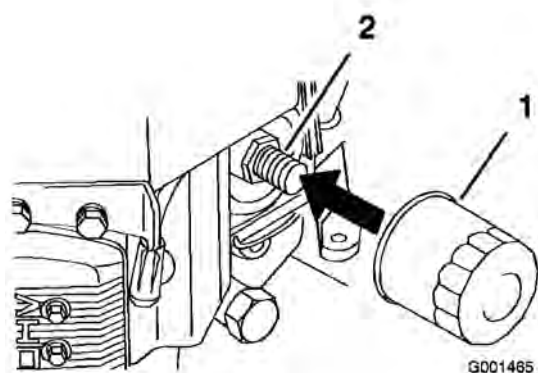

Figure 30
- Remove the old filter (Figure 30).
- Apply a thin coat of new oil to the rubber gasket on the replacement filter (Figure 30).
- Install the replacement oil filter to the filter adapter, turn the oil filter clockwise until the rubber gasket contacts the filter adapter, then tighten the filter an additional 3/4 turn (Figure 30).